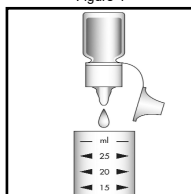

Figure 2
4. Add solutions to the dilutor snapper cup in the following order. Fig. 2